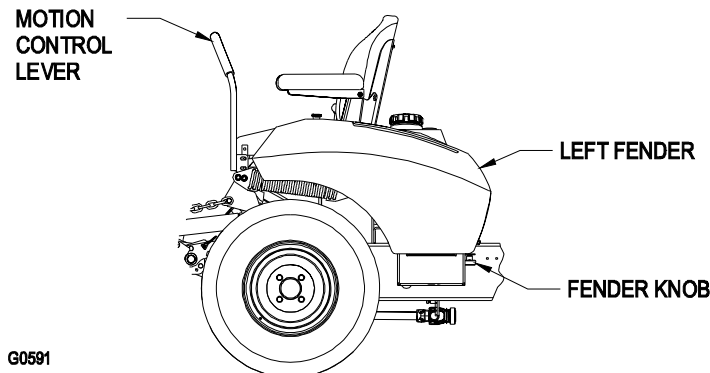

FIGURE 11
- b) Locate and loosen the knob under the rear of the left fender. See Figure 11.